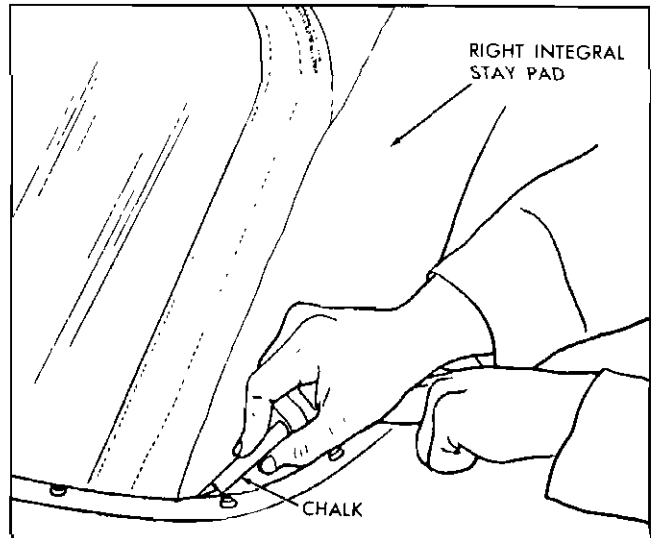

Fig. 7-42 Reference Chalk Mark
19. Where required, place reference chalk mark on outer surface of back curtain or quarter stay pads along pinchweld finishing molding. Readjust back curtain assembly and stay pads as required (Fig. 7-42).